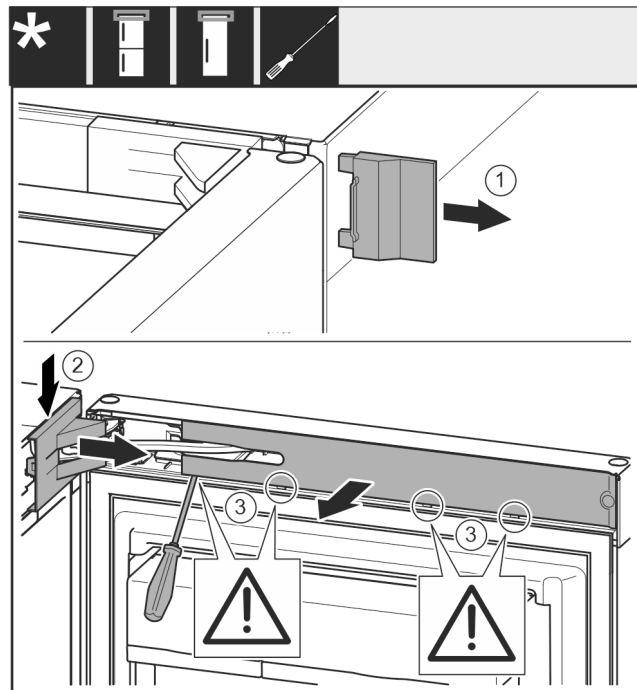

Fig. 10
- Remove cover Fig. 10 (1).
- Disengage and loosen the swap bearing block cover Fig. 10 (2).
- Remove the swap bearing block cover Fig. 10 (3).
- Use a slotted screwdriver to unlatch the trim Fig. 10 (4) and swing it to the side.